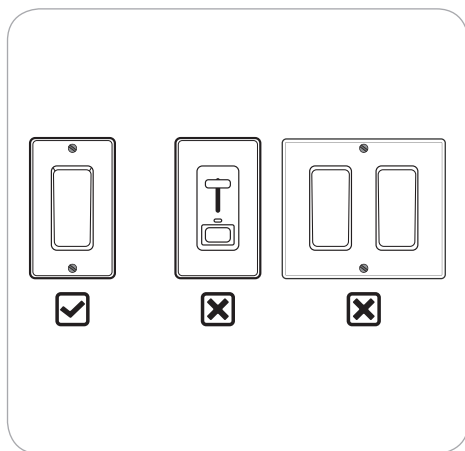

Figure 1.1
1. Consciot smart ceiling fan do not work with any dimmable switches, please use a single switch. (Figure 1.1).